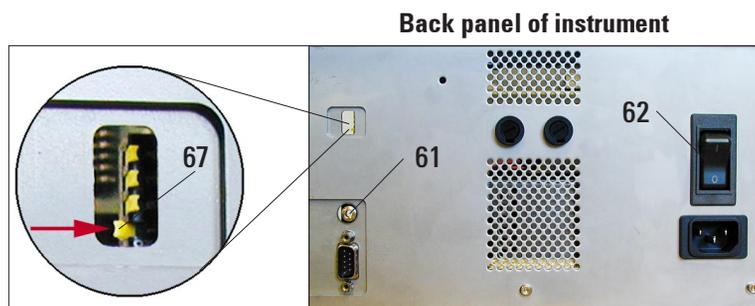

Fig. 35
- At the right end of each tray there is a sensor (66), which triggers a signal when covered (Fig. 35). The tray stack is then moved upwards by one tray.
To deactivate the beeper, push the bottommost switch (**67**) to the right (in the direction of the red arrow in Fig. 35).